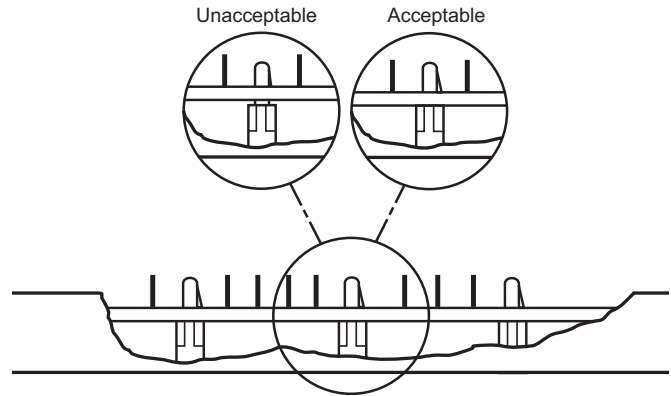

Figure 3 - Attaching Circuit Board to Tabs
2. Holding the assembly by the edges of the printed circuit board, apply downward pressure until all five tabs on the printed circuit board supports springlock into place. Pull up on assembly to verify this (see Figure 3).